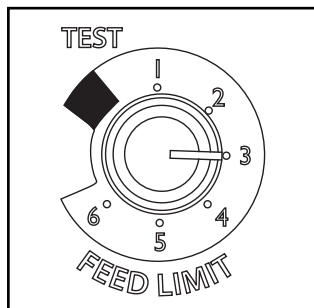

Figure 4.3
3. For your first fire it may be necessary to purge the auger system by putting the feed Limit knob to "Test" prior to starting the unit. Figure 4.3. This insures that plenty of fuel enters the burn pot for proper ignition.